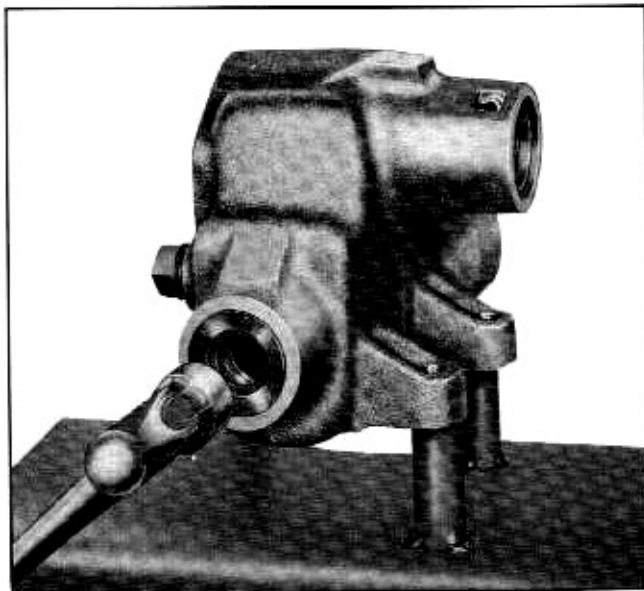

Fig. 9-28 Installing Upper Bearing Seal
4. Install upper bearing seal (Fig. 9-28).